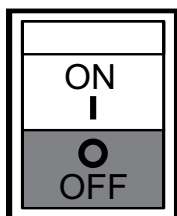

Figure 18. Idle Control Switch (OFF)
8. Place idle control switch (Figure 18) in the **OFF** position. This will allow the engine speed to run at about 3600 RPM's.
Placing the idle control switch in the **OFF** position (Figure 18) allows the engine to operate at a maximum speed of about 3600 RPM's.